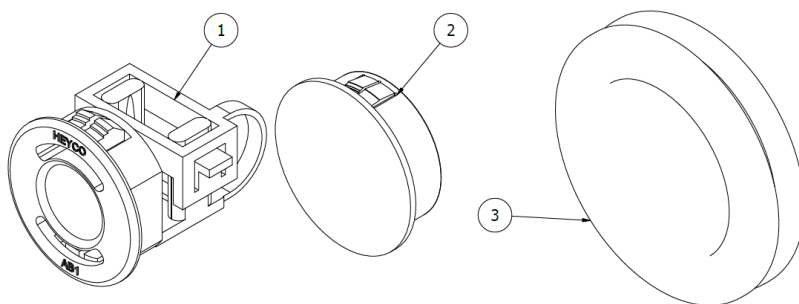

Figure 8: Cable and tube interfaces
- Move the cable strain relief fittings to the side you wish to make the entries / exits. Cover all other holes in the enclosure with the supplied blanking grommets. (Figure 8).
- Wire the cable via the appliance case grommets and into the control box housing (Figures 8,12.1 and 12.2).